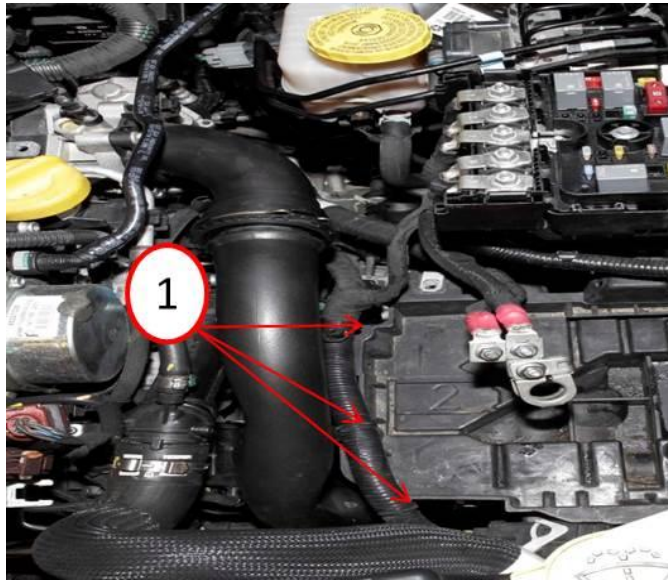

Fig. 15 Retainers At Battery Tray
19. Remove the 4 push pins from the battery tray to the harness (Fig. 15).